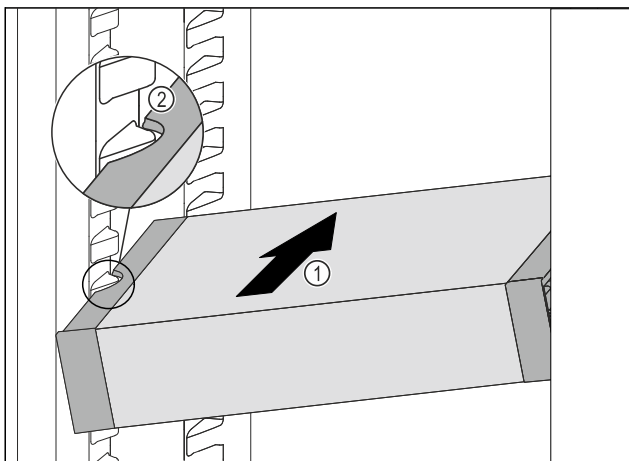

Fig. 78
- Insert the VarioSafe into the fridge section at an angle Fig. 78 (1) until the recesses in the side Fig. 78 (2) of the VarioSafe are at the level of the support rib in the fridge section.